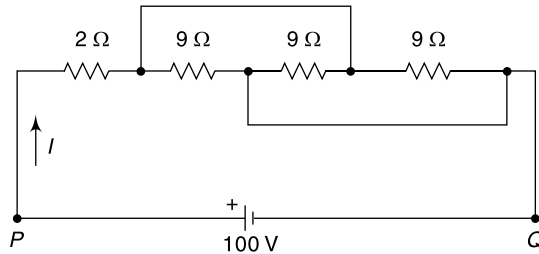

Fig. 1.9
10. Find the power consumed by the combination of resistances when connected to a voltage source of 100 V at terminals P - Q (Fig. 1.9).
[Hint: Fig. 1.9 can be reduced as shown below: